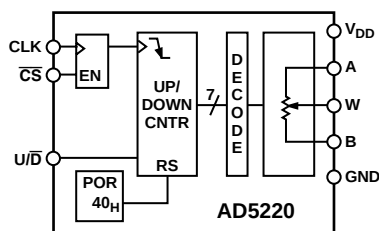

Figure 35. Block Diagram
The AD5220 contains a three-wire serial input interface. The three inputs are clock (CLK), $\overline{CS}$ and UP/DOWN ($U/\overline{D}$). The negative-edge sensitive CLK input requires clean transitions to avoid clocking multiple pulses into the internal UP/DOWN counter register, see Figure 35. Standard logic families work well. If mechanical switches are used for product evaluation they should be debounced by a flip-flop or other suitable means. When $\overline{CS}$ is taken active low the clock begins to increment or decrement the internal UP/DOWN counter dependent upon the state of the $U/\overline{D}$ control pin. The UP/DOWN counter value (D) starts at 40_H at system power ON. Each new CLK pulse will increment the value of the internal counter by one LSB until the full scale value of 3F_H is reached as long as the $U/\overline{D}$ pin is logic high. If the $U/\overline{D}$ pin is taken to logic low the counter will count down stopping at code 00_H (zero-scale). Additional clock pulses on the CLK pin are ignored when the wiper is at either the 00_H position or the 3F_H position.